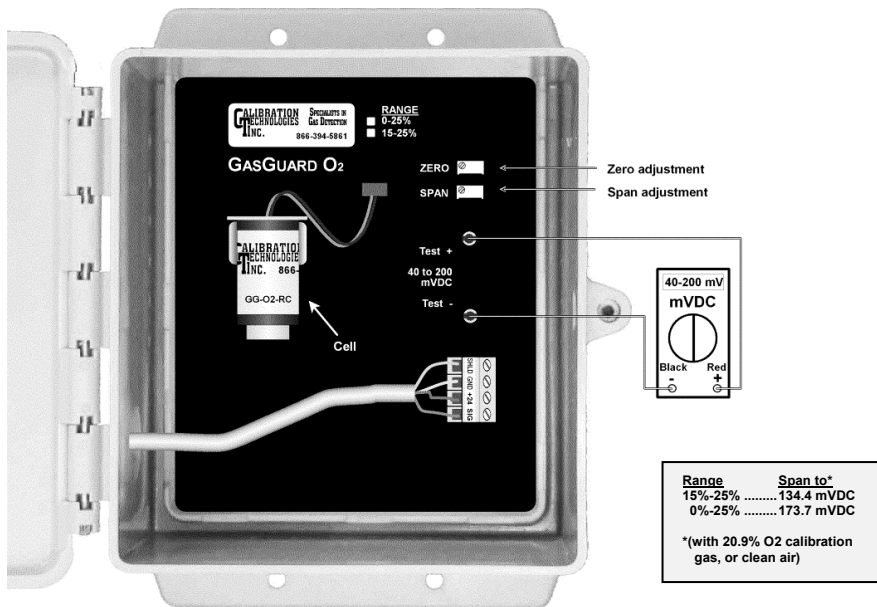

Figure 3: Sensor board components and zero/span adjustments
- Once the output signal has peaked (or three minutes maximum) adjust the span pot until the correct output is achieved (see **Figure 3**).
- Adjust the zero pot until the sensor outputs 40 mV from Test [-] to Test [+] (see **Figure 3**).